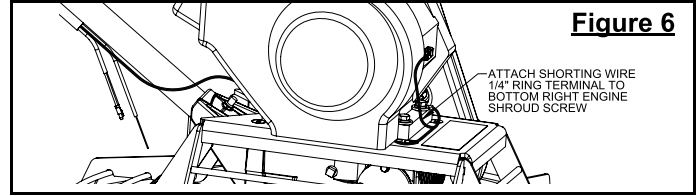

Figure 6
2. Remove short wire with 1/4" ring terminal from end of harness (15). Route harness inside small tube on handle (16) & between engine and belt guard as shown in Figure 6.
3. Connect bullet terminal to engine shut-off switch wire. Reattach short wire and assemble 1/4" ring terminal to lower right engine shroud screw as shown in Figure 6.